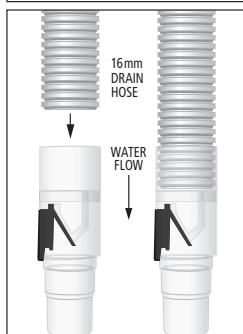

Figure 2
3. For 5/8" (16mm) drain hose, insert end of upper drain hose into top of Trap (Wide End) and seat firmly (**Figure 2**).